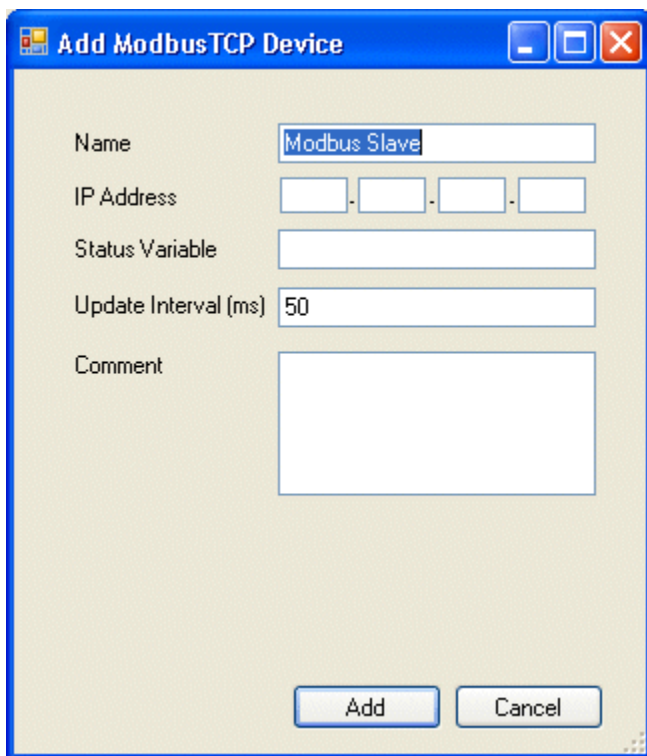
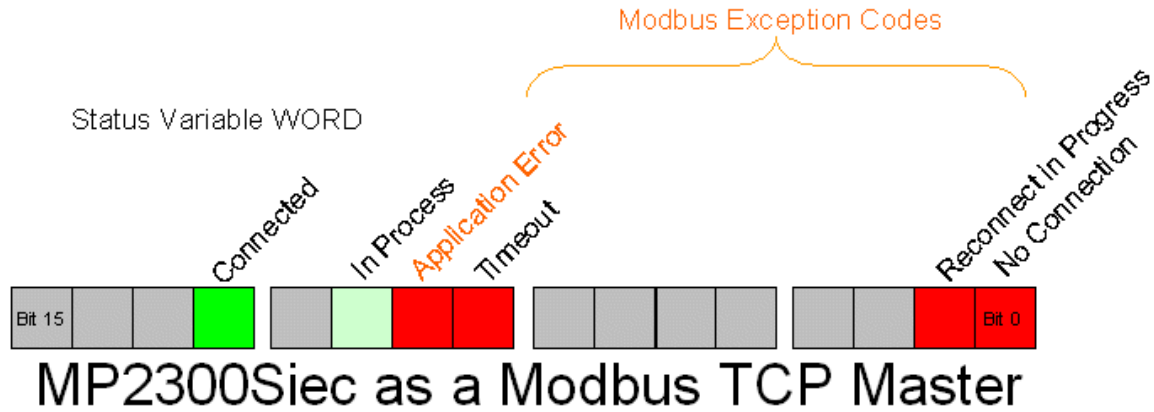

Figure 3: Add Modbus Device
Figure 7: Modbus status WORD
Step 4: The Add Modbus Device window is shown below in Figure 3. Select a name for the device to be added. This name will be displayed in the Global Variables list. The Status Variable will be automatically entered in the Global Variables section of the Development Environment. The Status Variable data type is WORD. This variable will indicate the status of the connection. See Figure 7 for details regarding the status variable. The minimum update time is 20 mSec.